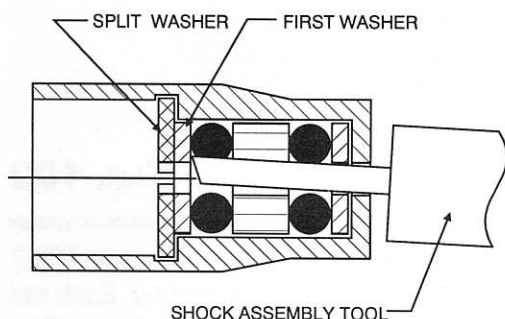

Fig. 95
2) Now remove the #6429 plastic shock assembly tool from the shock master bag. Fig. 95 shows the parts laid out in